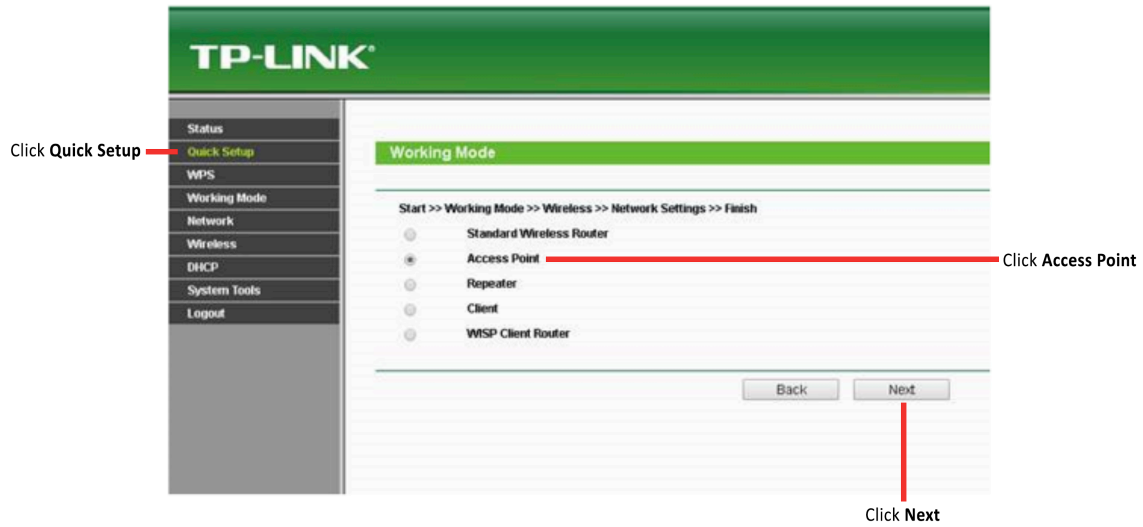

Figure 49: Start Router Configuration
5. On the left panel, click **Quick Setup**. (Figure 49)
7. In the *Main Panel*, select the **Access Point** button. (Figure 49)